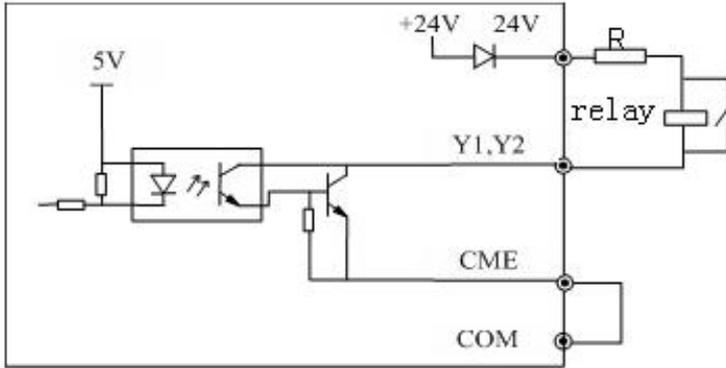

Fig 2-29 Wiring method 1 of multi-function output terminal
5) Multi-function output terminals Y1 and Y2 can use the internal 24V power supply of ac drive and the wiring method is shown in Figure 2-29.